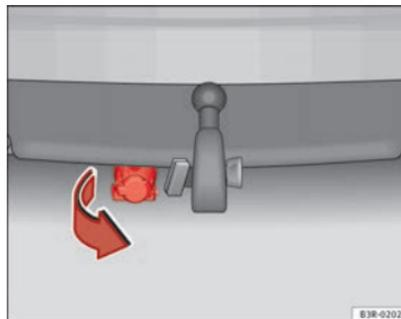

Fig. 162 Rear bumper: Pulling down the power socket
- To plug in the electrical connection for the trailer, pull down the socket below the bumper ⇒ Fig. 162.